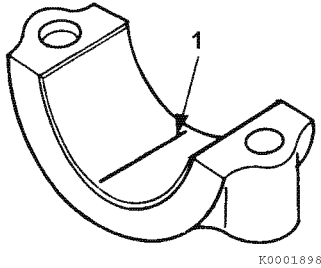

Figure 6-108
- 2- Place a piece of PLASTIGAGE (Figure 6-108, (1)) along the full width of each bearing insert.